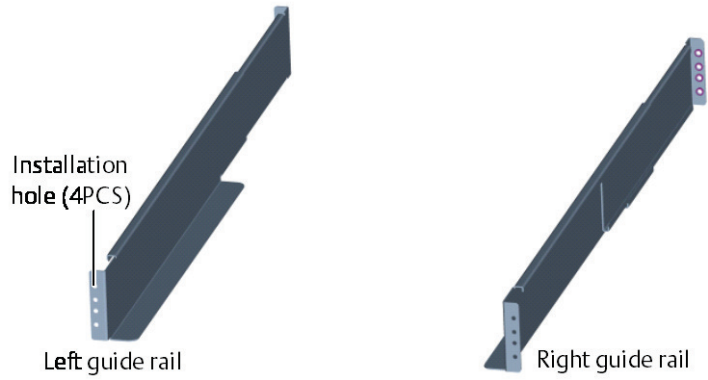

Figure 3-2 Appearance of the guide rails
1) Take out the guide rails (one left guide rail and one right guide rail), guide rail screws and panel screws from the package, distinguish the left guide rail and the right guide rail according to Figure 3-2, and confirm their retractable function respectively.